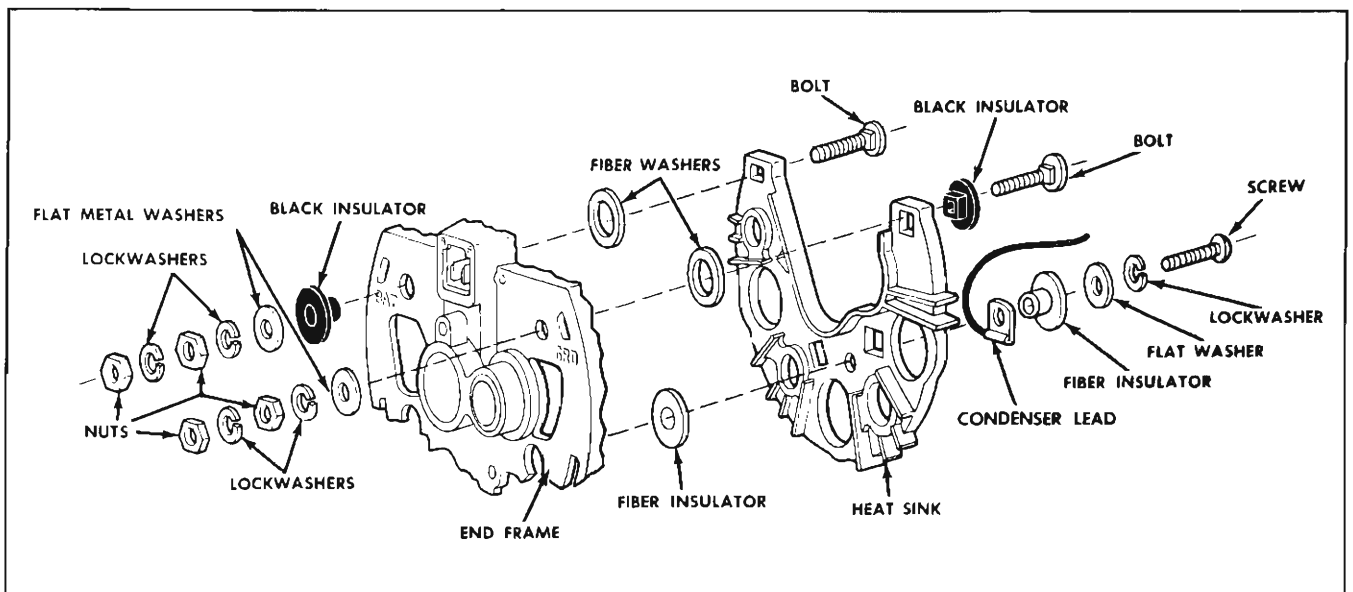

Fig. 11-21 Heat Sink Assembly
4. Replace heat sink assembly, noting the stack-up of parts shown in Fig. 11-21.